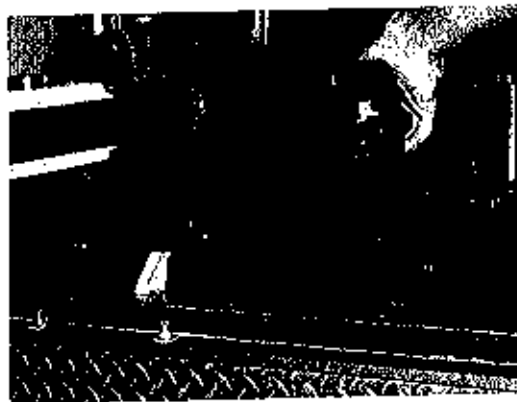

Figure 22: Disengaging the Safety Bar
4. **Operator 2** – Pull the safety bar release lever forward to disengage the safety bar from the safety hook in the patient compartment as shown in Figure 22.